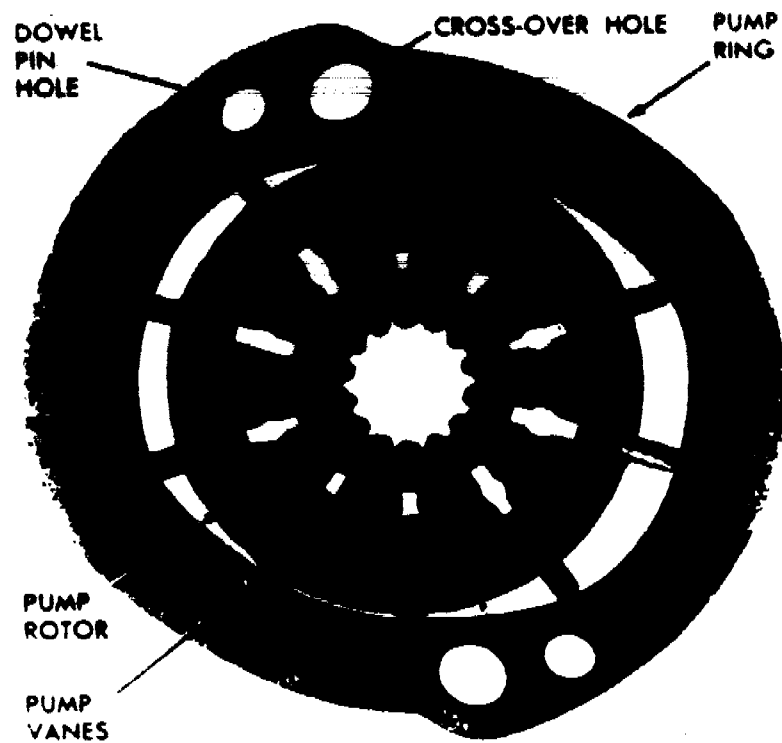

Figure 26. Vane Type Pump.
There are three major types of hydraulic pumps used in conjunction with current automotive power steering. They are: (1) vane, (2) slipper, and (3) roller. Figures 26, 27 and 28 illustrate these three types of pumps.